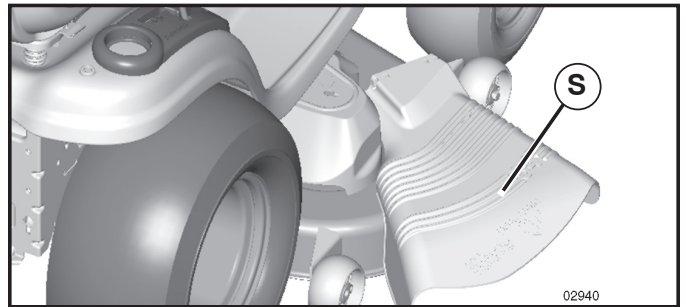

FIG. 9
**CAUTION:** Do not operate the mower without either the entire grass catcher, on mowers so equipped, or the deflector shield (S) in place (See Fig. 9).